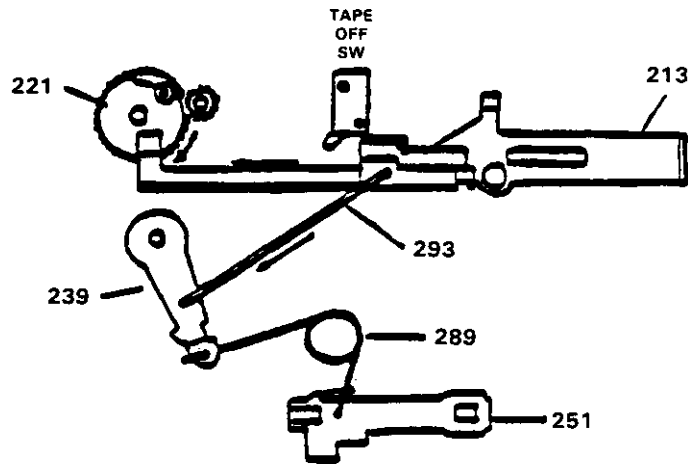

FIGURE 3-2. REVERSE SPRING OPERATION
1. Play Mode - Load a Cassette Tape into the Cassette Housing (217). It will engage and push against the Catch (251) which will move back. The cassette is drawn inside by the Reverse Spring (289), (see Figure 3-2).